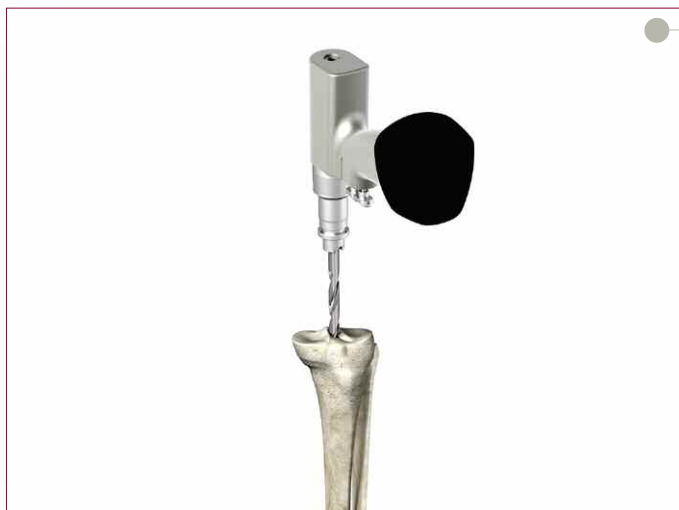

Figure 56
- ▶ If the tibial eminence is pronounced, make an initial cut to flatten the tibial plateau and expose an area of cancellous bone. A 5/16" hole is drilled in the location determined by pre-operative X-rays (**Figure 56**).